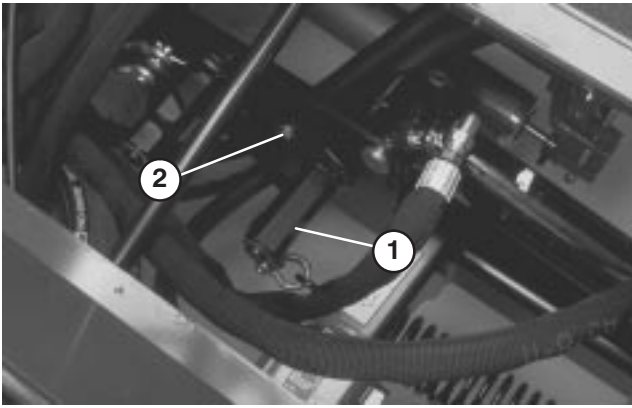

Figure 34
3. Place an open end wrench on the hex shaft of the spring bracket (Fig. 34).
4. Remove the capscrew and locknut securing retaining bracket (Fig. 34), while rotating hex shaft to relieve spring tension.